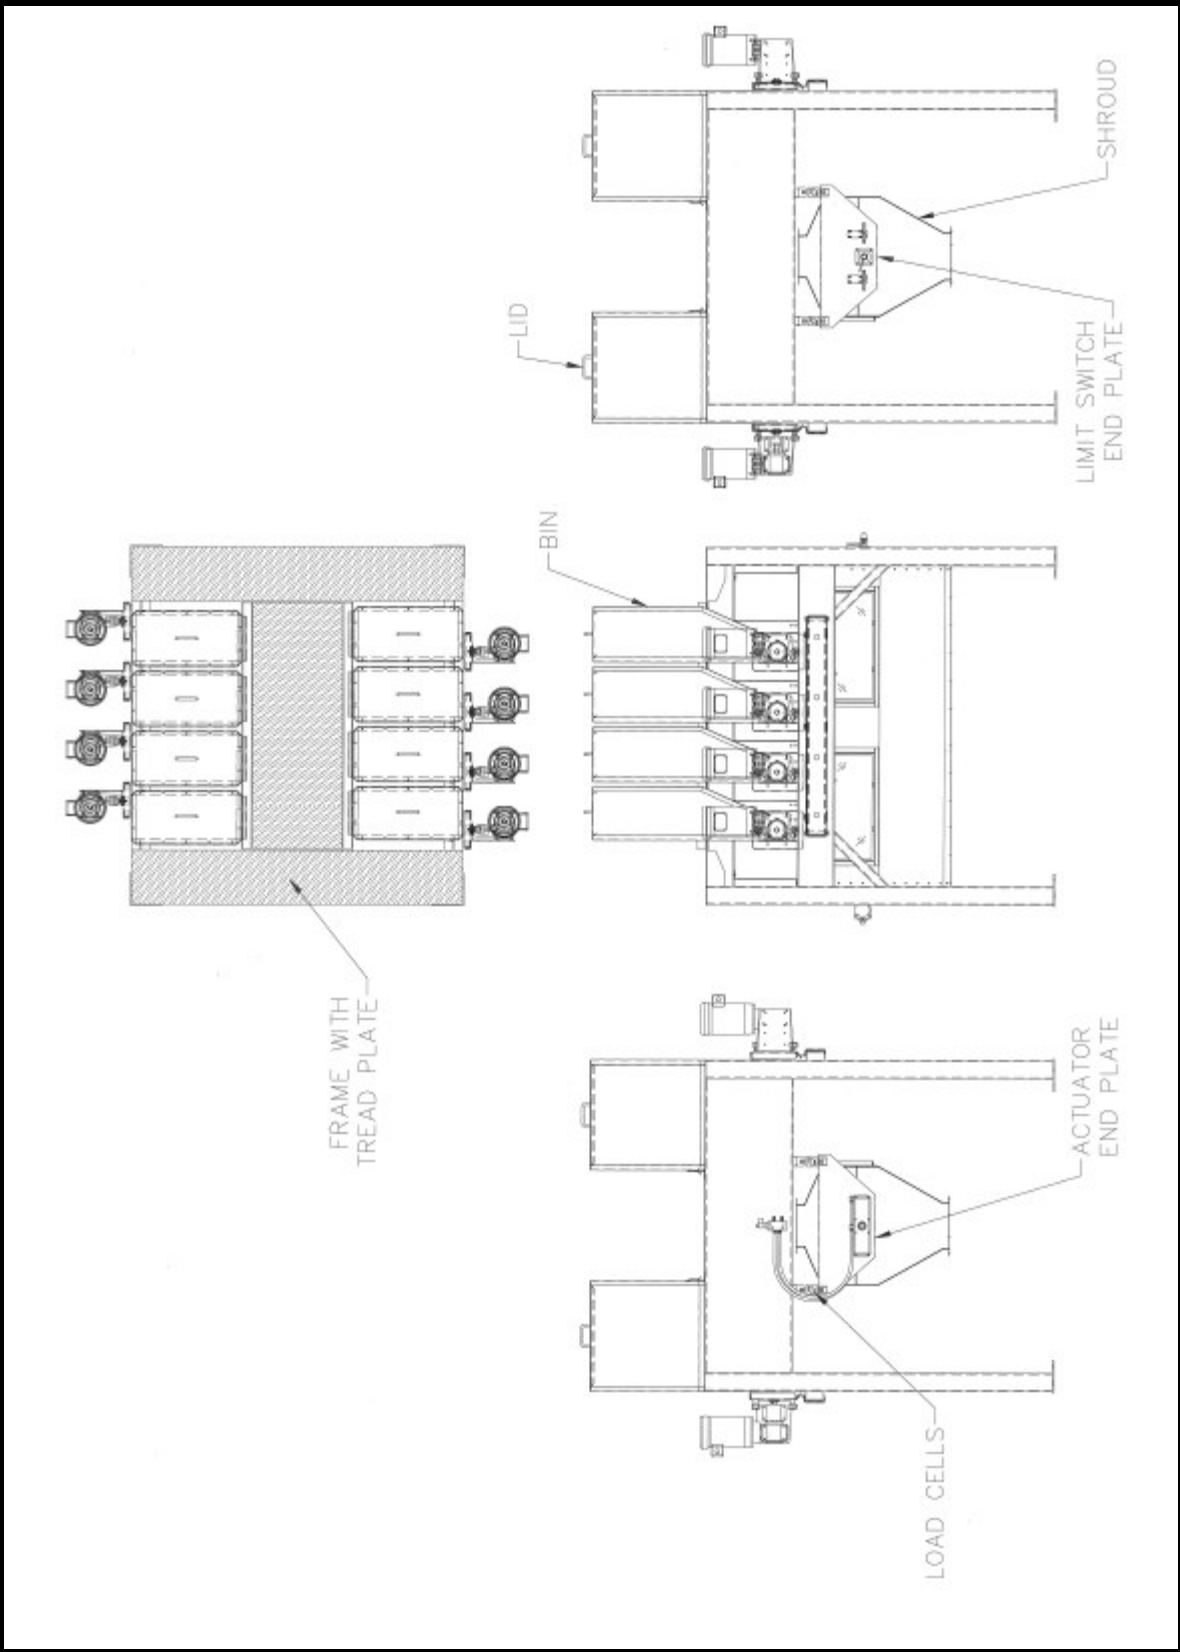

FIGURE 2-1 TYPICAL WEIGHT GAIN (MS1) MICROSYSTEM
2.1.1 Weight Gain (MS1) (FIGURE 2-1)